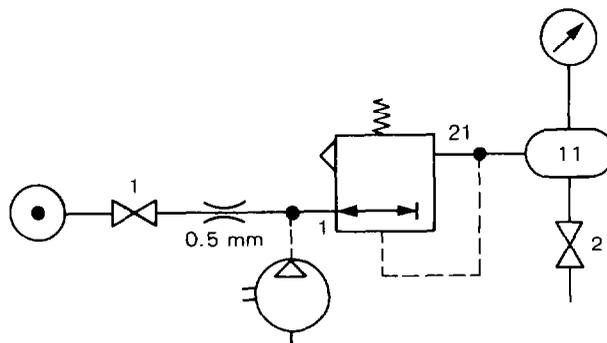

Figure 111 Test Connections
- a. Connect the regulator as shown in Fig 111.